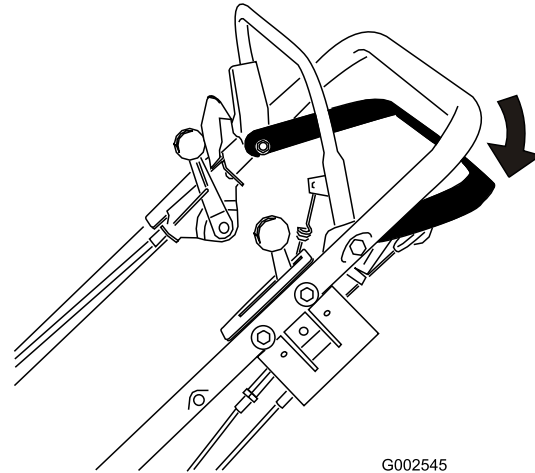

Figure 16
1. Release the traction control bar (Figure 16).